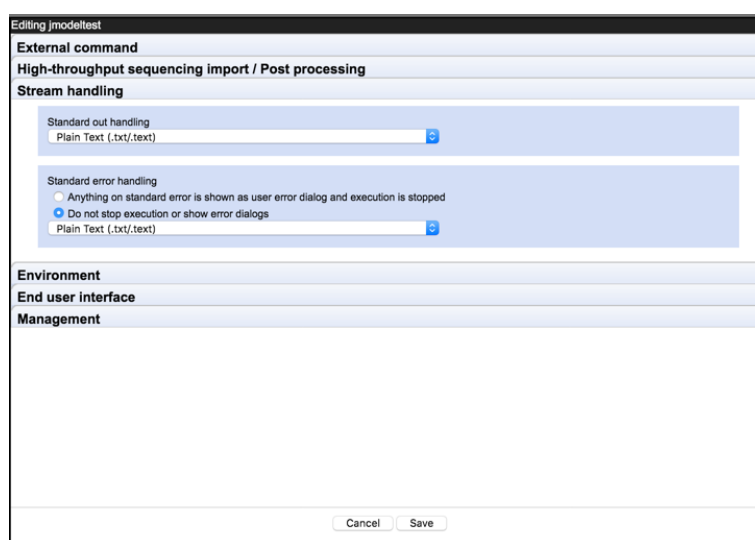

Figure 15.56: Standard error and standard out from the command line application can be collected and imported so it can be reviewed.
- Configure the external application to import standard out and/or standard error as text. This makes it possible to check error messages posted by the external application. See figure 15.56. For containerized external applications, messages from docker are posted to standard error, so collecting standard error for such applications is particularly recommended.